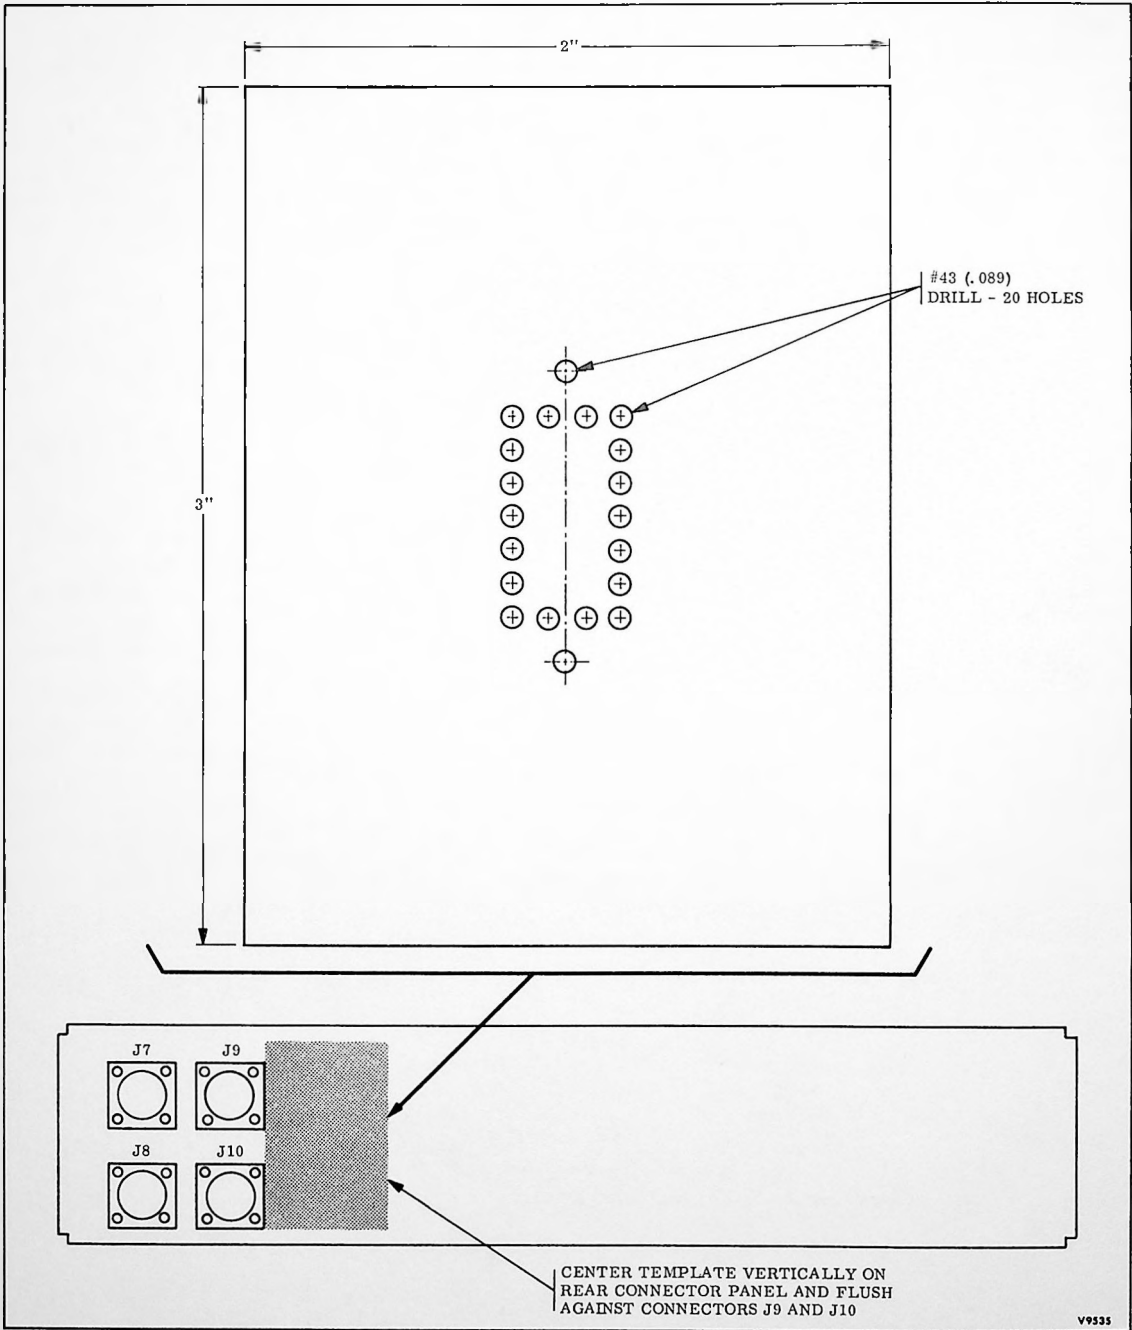

Figure 2-11. Connector Template Positioning
q. Remove protective coating from double-sided tape on back side of connector template (Ampex part number 1368541) supplied with kit. Position template as shown in Figure 2-11 and press firmly in place.
r. Make sure the area behind the panel to be drilled is clear of components. Using a number 42 (.093-inch) drill bit, drill the 20 holes as shown in Figure 2-11.